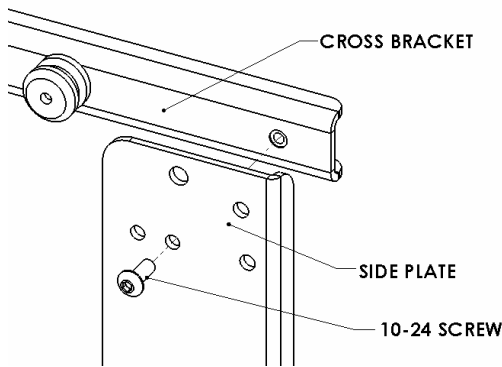
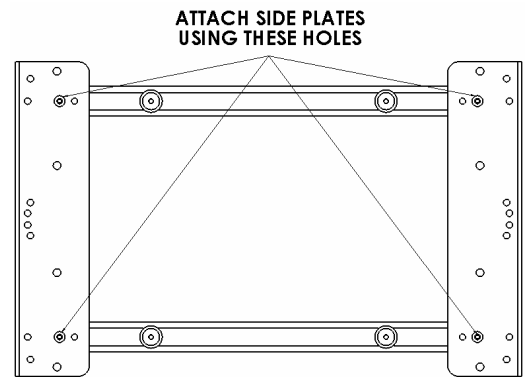

Figure 6
Figure 7
4. **Side Bracket Assembly:** Attach center brackets to side brackets using the 10-24 button head cap screws (see Figure 6 & Figure 7).